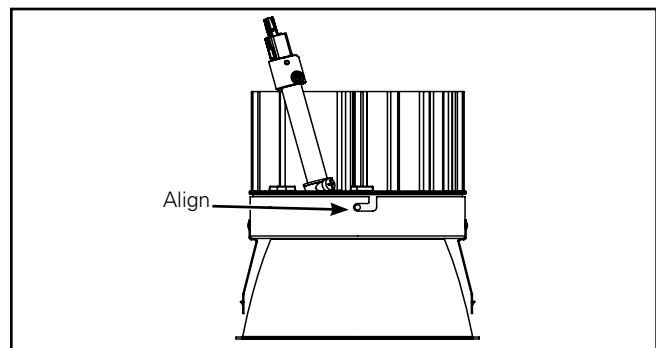

Figure 5.
3. Insert LED Engine into lower trim. Align LED Engine screw holes with lower trim screw slots (Figure 5.).